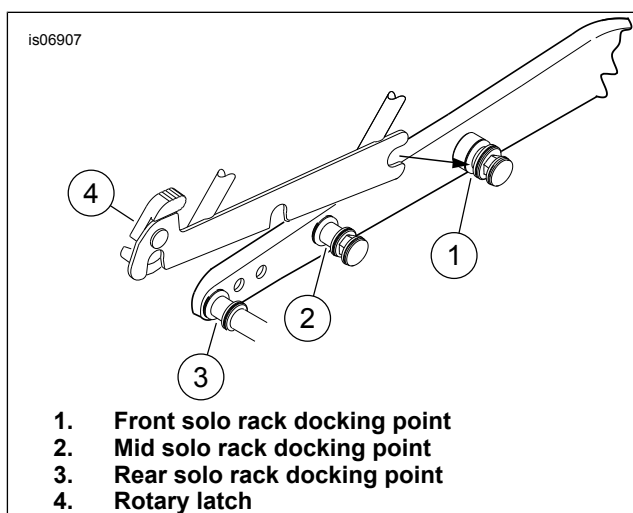
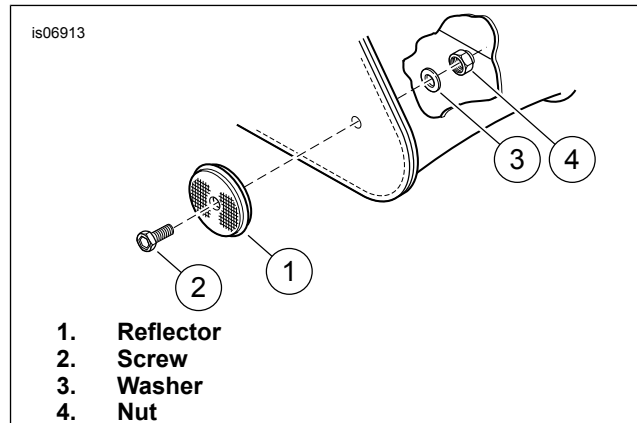
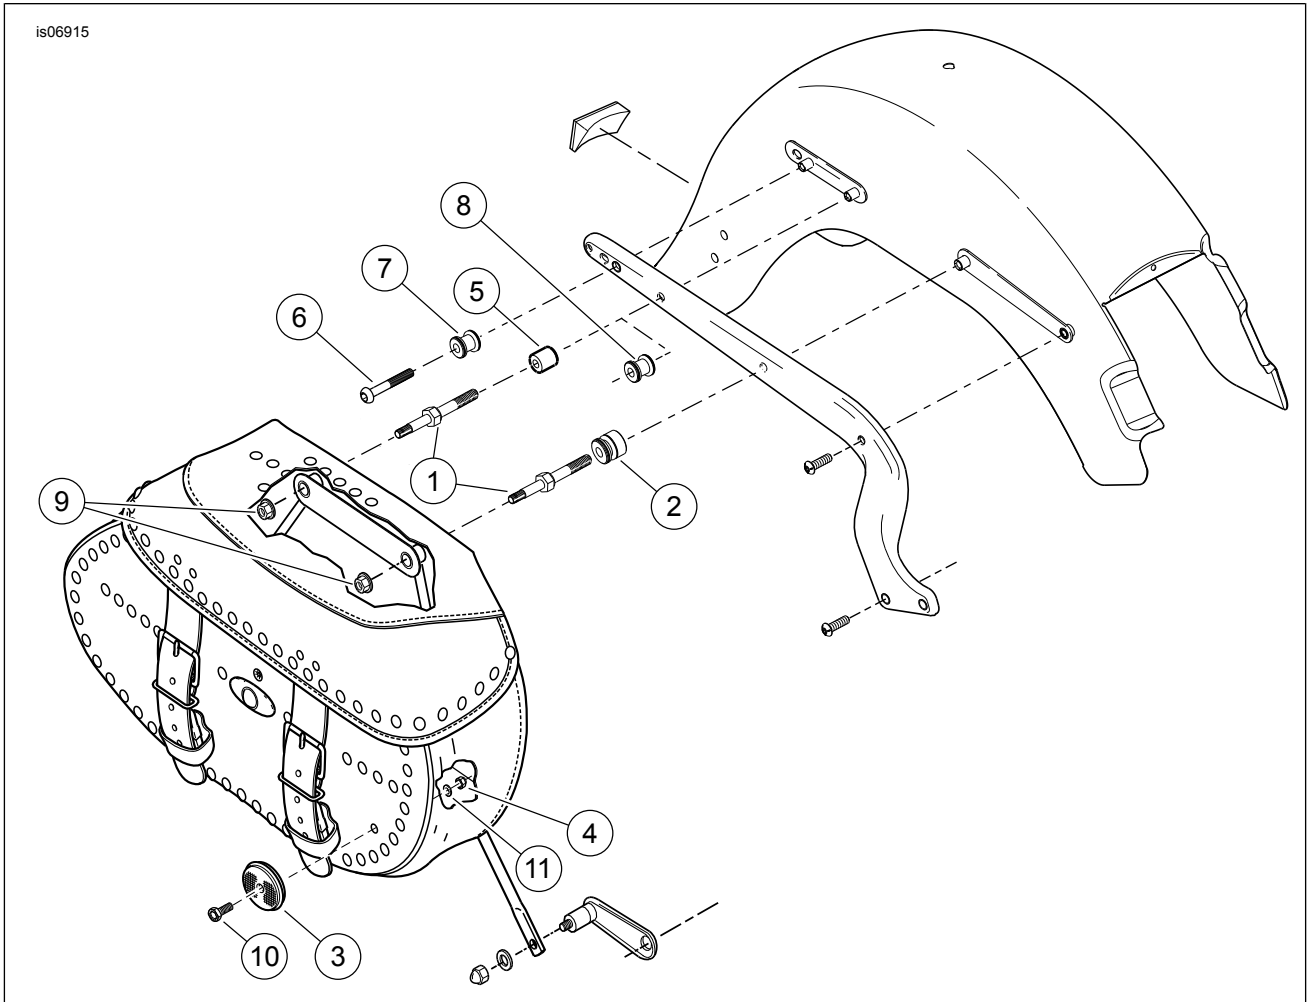

Figure 8. Push front notches down into front docking points on fender support.
Figure 14. Install reflectors from kit
Figure 15. Service Parts: Docking Hardware Kit
See Figure 15 and Table 3.
- See Figure 15. Remove a saddlebag by removing the acorn nut and washer on the lower support and the two flange locknuts inside the bag. Discard the flange locknuts but retain the acorn nut and washer.
- See Figure 15. Remove a saddlebag by removing the acorn nut and washer on the lower support and the two flange locknuts inside the bag. Discard the flange locknuts, but retain the acorn nut and washer.
See Figure 15. The rear docking point (8) is wider than the front docking point (2).
- Place front docking point (2) on front stud (1), with countersunk end of docking point facing fender support.
- Place spacer (6) for side plates or mid docking point (for detachable sideplate kit) on rear stud (1).
- Place rear docking point (8) on bolt (7), with countersunk end facing fender support.
4. Insert front stud (1) through front docking point (2), fender support and into bracket underneath fender as shown.
5. Insert rear stud (1) through fender support and into bracket underneath fender as shown.
6. Install bolt (7) through fender support and into bracket underneath fender as shown.
7. Tighten front and rear studs (1) and bolt (7) to 37 N·m (27 ft-lbs).
1. See Figure 15. While standing behind motorcycle, push front rack notches down into front docking points (2) as shown in Figure 8.
1. See Figure 15. Slip saddlebag mount onto studs (1) and install flanged locknuts (9).
5. See Figure 14 and Figure 15. Install a round reflector (1) on each saddlebag, using screw (2), washer (3) and nut (4) as follows: